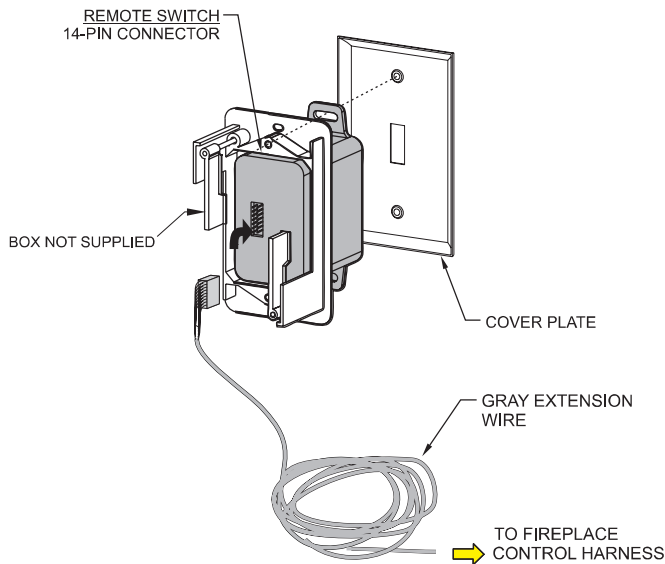

Figure 38
15. Route the gray remote receiver harness through the bushing. Mount the controls and connect the wiring. Secure wiring to stud. See **Figure 38**.